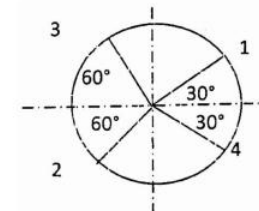

Figure 2
- (20)
- In a four cylinder in-line IC engine, the mass of the reciprocating parts of cylinder number 1 and 4 are 120 kg each and that of the cylinder number 2 and 3 are 175 kg each. If the crank radius is 150 mm, length of the connecting rod is 450 mm and engine speed is 1300 rpm, determine the primary and secondary forces and couples. The cylinders are placed 600 mm apart. (Figure 2). (20)